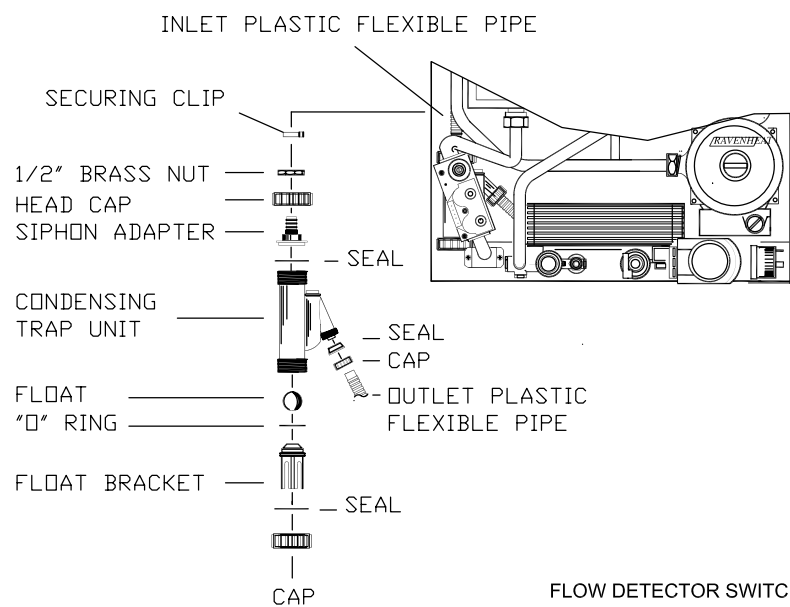

Fig. 55
**7.20 TO REMOVE/REPLACE CONDENSING TRAP (fig.55).**